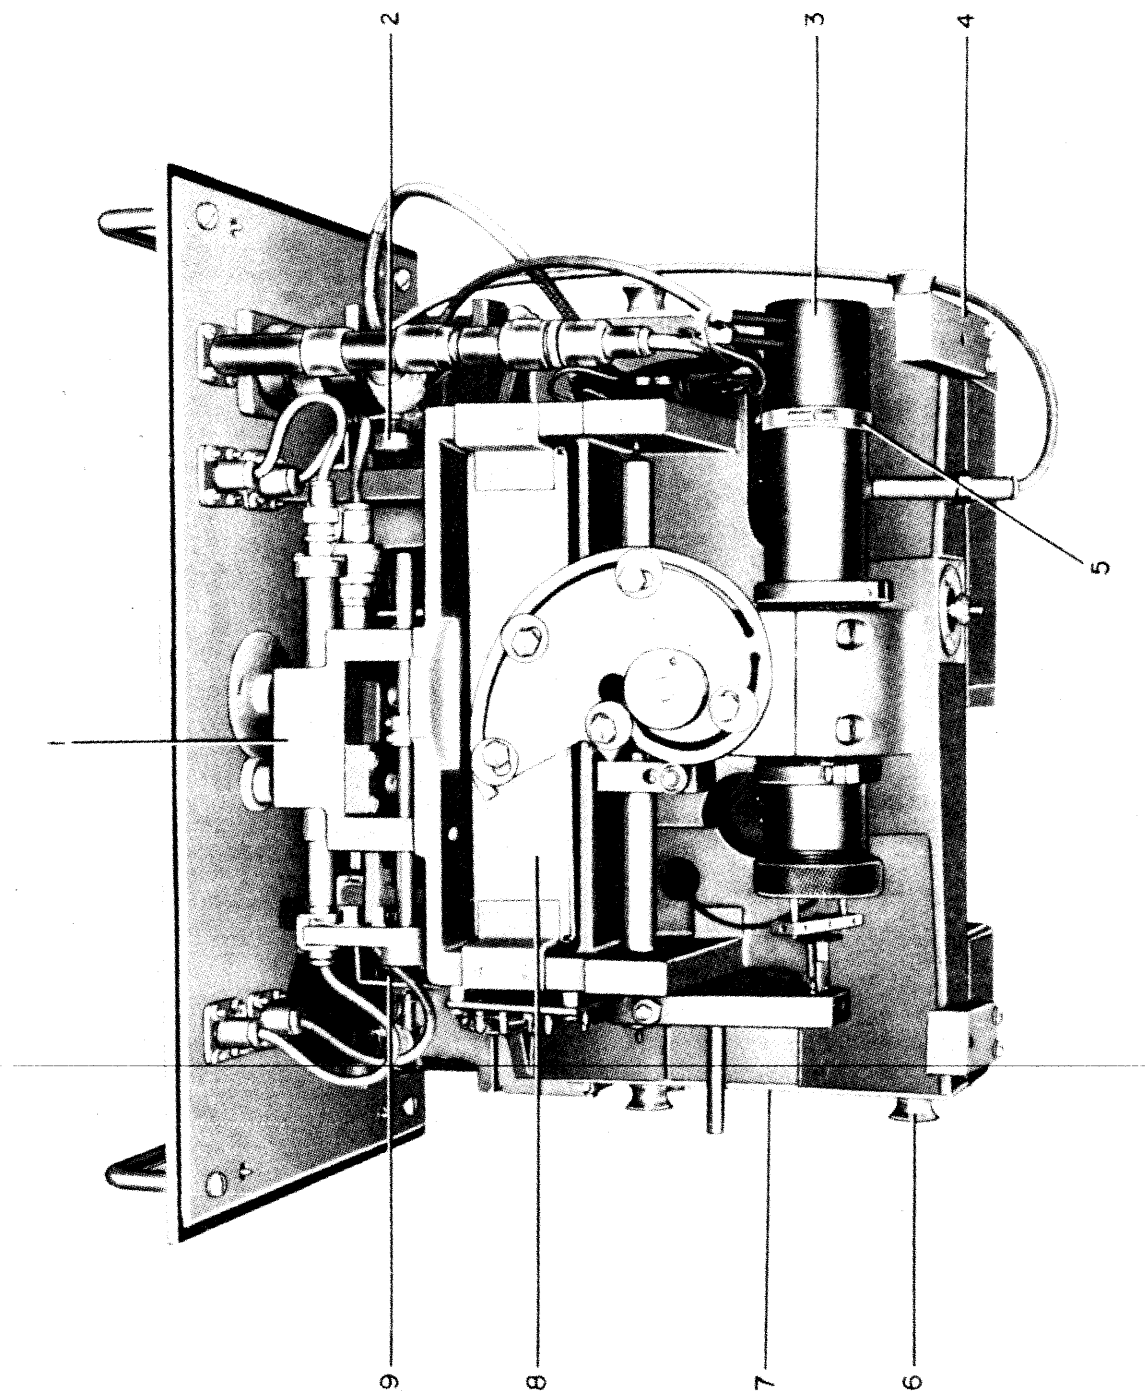
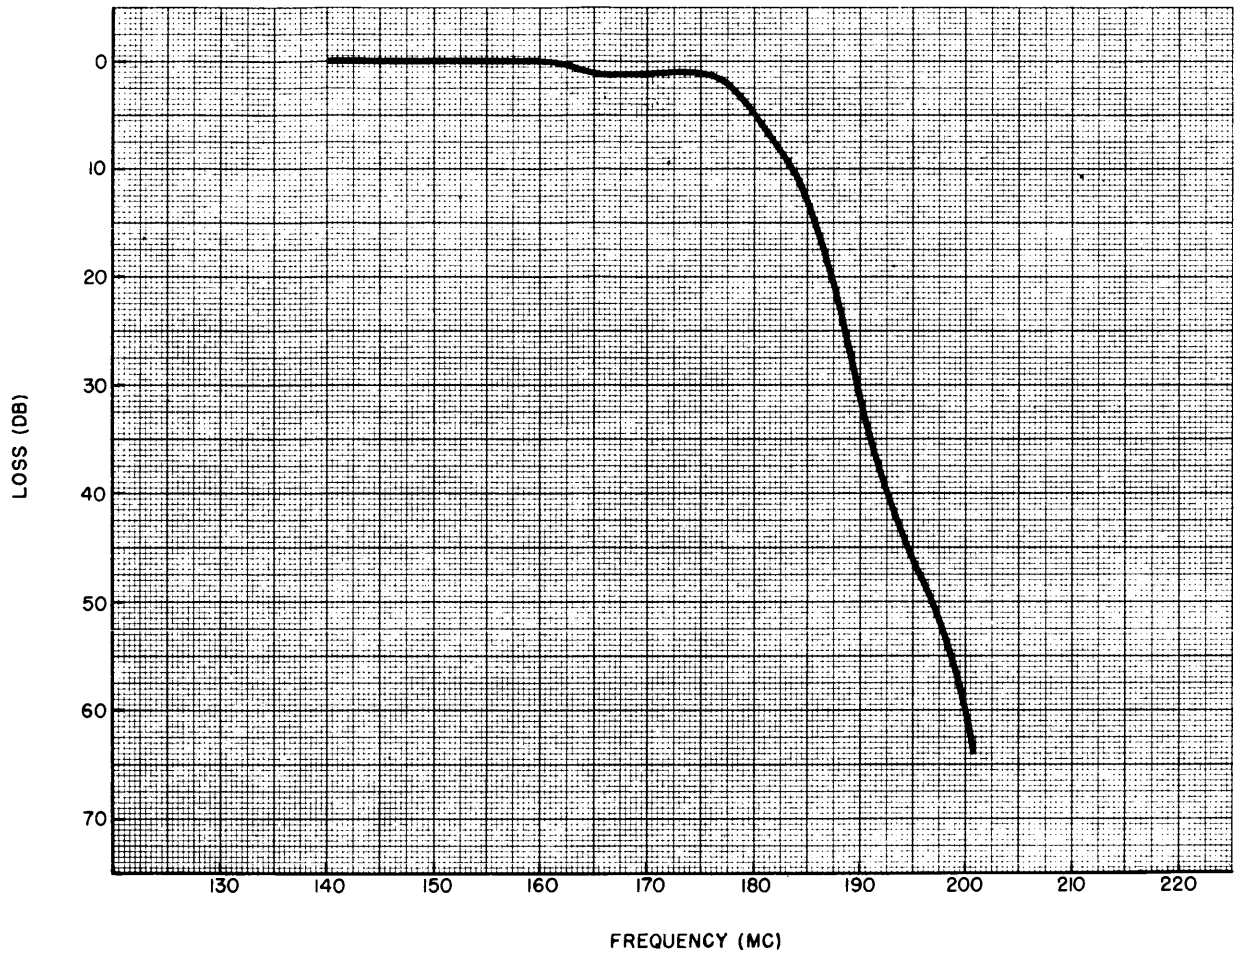

Figure 6-14. R-f Tuning Unit and Panel Assembly, Bottom View
Figure 6-17. 180 Mc Low Pass Filter, Response Curve
a. Loosen the adjustable clamp (5, figure 6-14) which secures the back cover to the klystron oscillator assembly (3, figure 6-14), and gently pull out the four-pin klystron base socket.
b. Use the spanner wrench supplied with the equipment to loosen the barrel lock nut at the end of the klystron oscillator assembly (3). Do not remove the lock nut completely.
g. Replace the cover and securely fasten it to the klystron oscillator assembly (3, figure 6-14) by means of the adjustable clamp.
KEY TO INDEX NUMBERS FOR FIGURE 6-14
6-25. 180 MC LOW PASS FILTER ALIGNMENT.*(See figures 6-17 through 6-19.)*
6-26. To check the performance of the 180 mc low pass filter, measurement of the band pass characteristic will be required. With the dust cover on, and the filter removed from the tuning unit, a measured response over the passband having a maximum insertion loss (including internal pad) of 9 db at 180 mc indicates satisfactory performance. At 175 mc, a response having a minimum attenuation of 1.5 db is satisfactory. At 185 mc, a response having an attenuation greater than $7\frac{1}{2}$ db is satisfactory. Refer to figure 6-17 for the applicable response curve. If the 180 mc low pass filter fails to meet the minimum performance standards outlined above, realignment will be required. The same precautions discussed in paragraph 6-17 apply to alignment of the 180 mc filter. Referring to figure 6-18, set up the test equipment after removing the filter from the tuning unit. Refer to figure 6-19 for an exploded view of the 180 mc low pass filter. The 180 mc filter is accessible at the bottom of the tuning unit and is located between the klystron tuning cam and the dual attenuator drive assembly. (See item 8, figure 6-14.) Rotate the TUNING dial to the high frequency end, so that the tuning cam will not obstruct removal of the 180 mc low pass filter. Proceed with the following tests and adjustments. (All references are to figure 6-19.)
- a. Loosen the lock nuts on capacitors C13, C16, C19 and C23 (14).
- b. Short out coils L8 (20), L11 (19), L12 (19), L14 (16), and L15 (15), with a single short jumper.
- c. Set the signal generator and receiver to an operating frequency of 240 mc and apply a test signal to P9 (4).
- d. Slightly detune L16 (10) by inserting an iron or brass slug into the coil.
- e. If the value of C13 (14) is correct, minimum transfer of power will be observed at the output of the receiver. Adjust C13 (14), if required, for minimum transfer of power.
f. Insert the iron or brass slug into L6 (7), and observe the output of the receiver for minimum transfer of power.
g. Adjust C23 (14), if required, for minimum transfer of power.
h. Short out L7 (21) and L12 (17), L14 (16), L15 (15) using two short jumpers.
j. Using the same procedure as outlined in steps d through h, adjust the value of C16 (14) as required for minimum transfer of power.